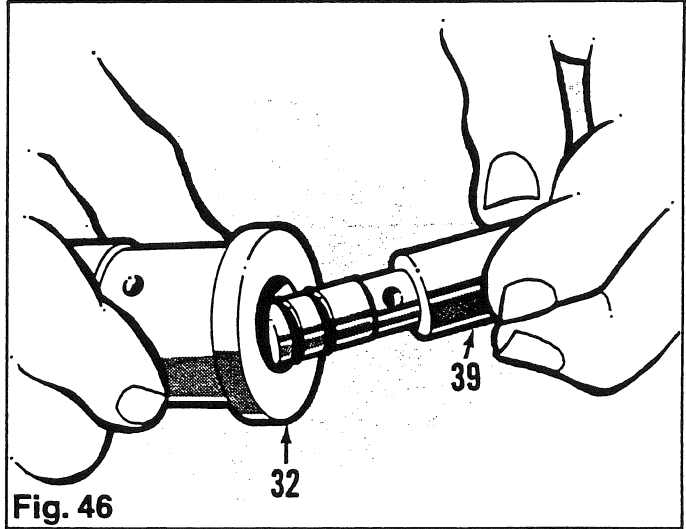

Fig. 46
4. Install the reaction piston (39) into the main piston (32). (Fig. 46)